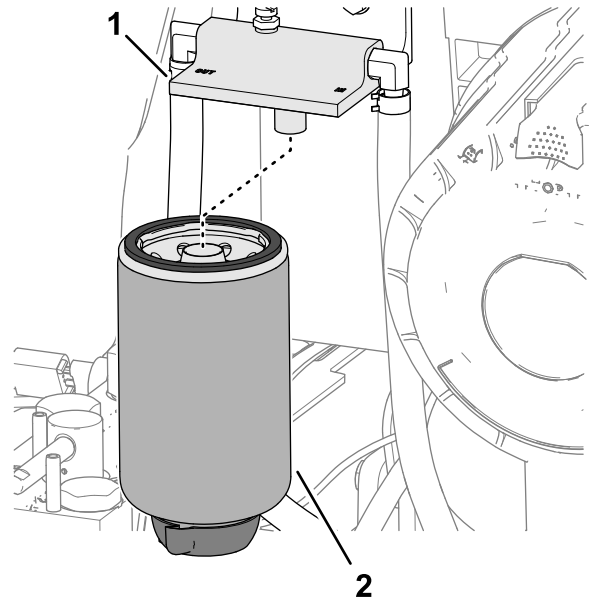

Figure 83
2. Clean the fuel-water separator filter and filter head (Figure 83).